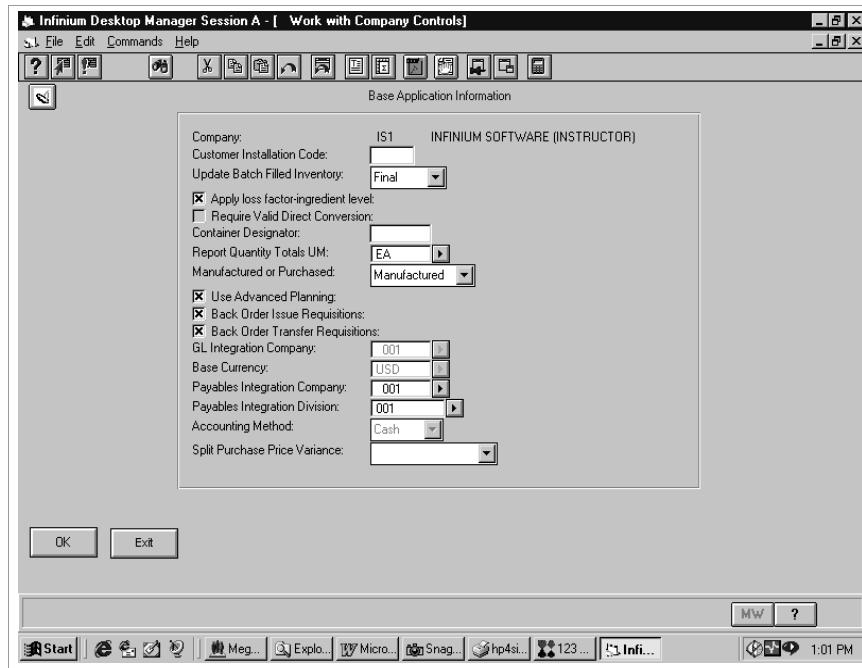

Figure 4-9: Work With Company Controls Base Application Information screen
- 5 Press Enter. The system displays the screen shown in Figure 4-9.